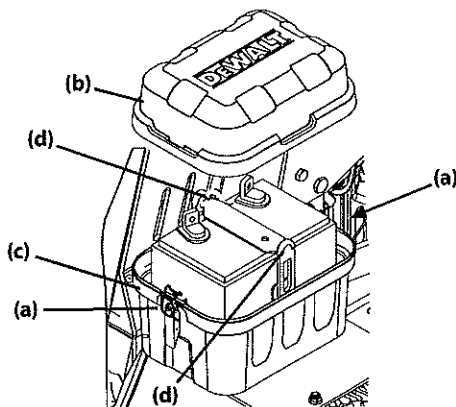

Figure 19
1. Release the two latches (a) securing the battery cover (b) to the battery box (c) and remove the battery box lid. See Figure 19.